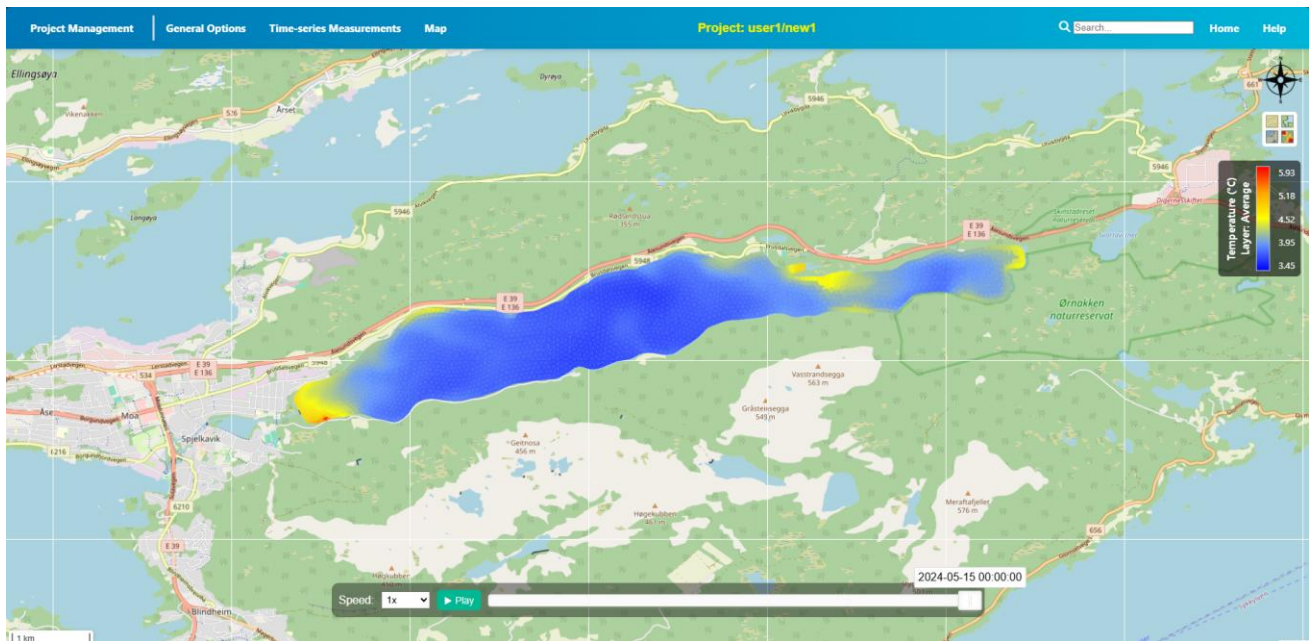
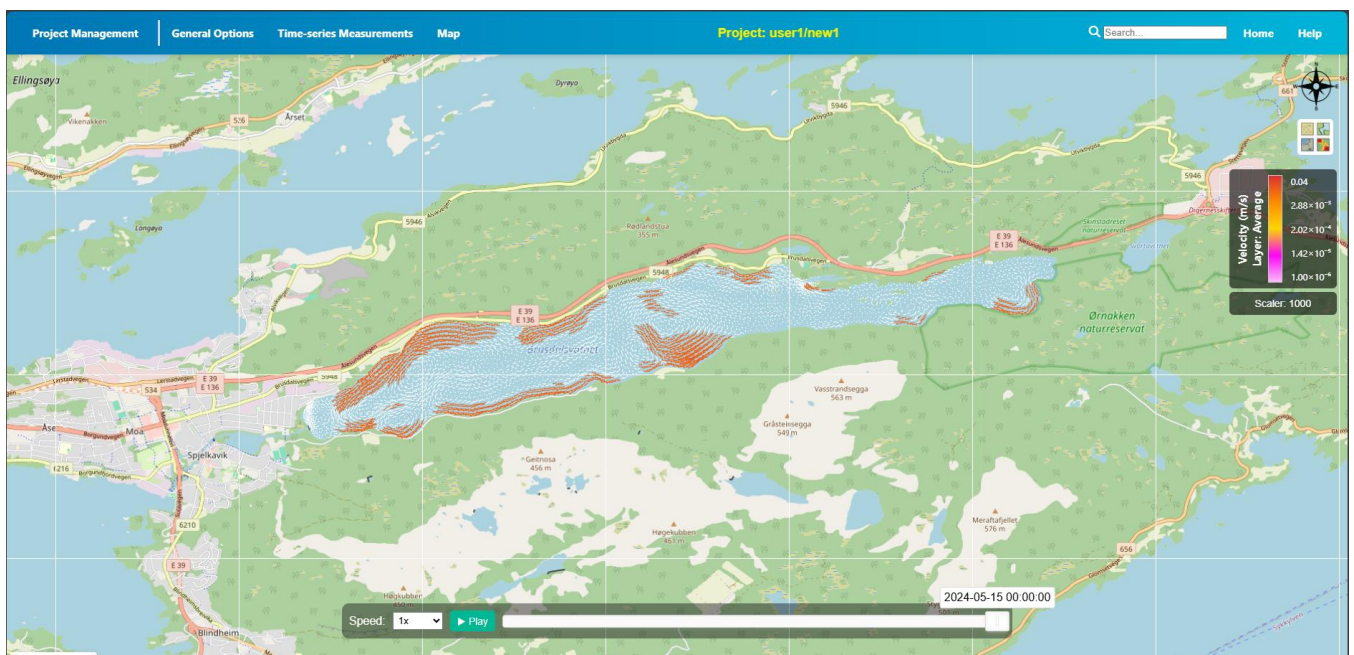
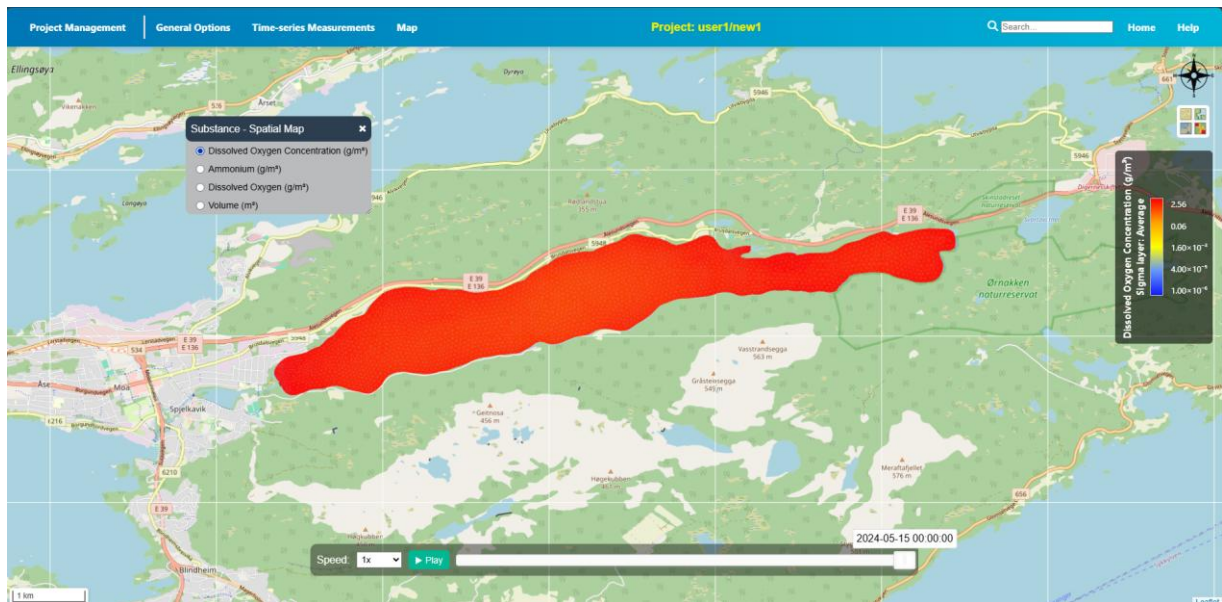
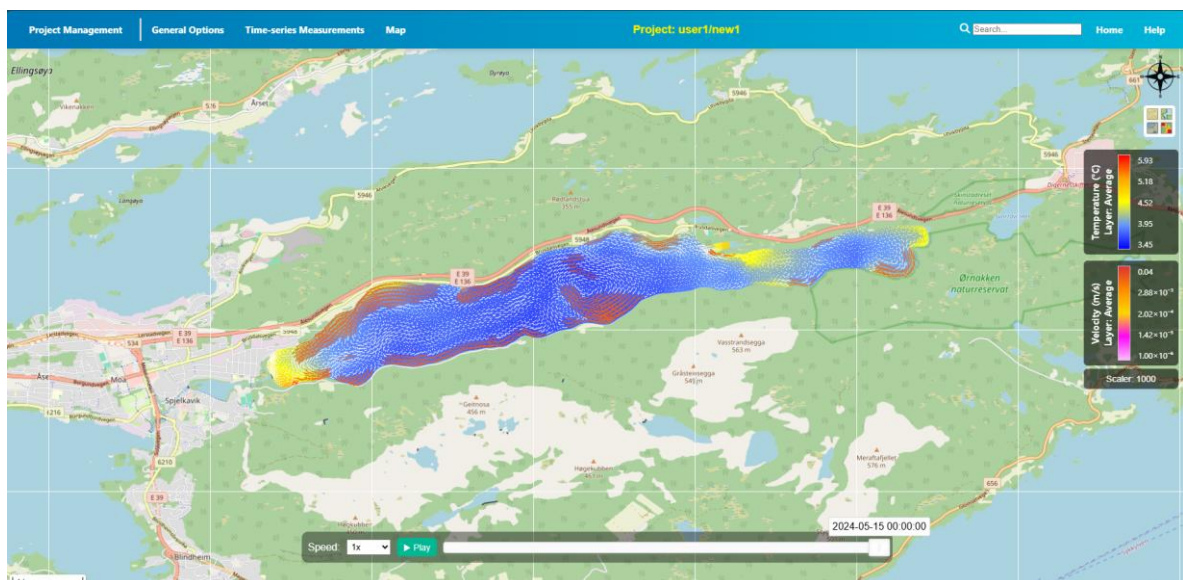

Figure 5.12a. Multiple layer dynamic map for average temperature
Figure 5.12b. Multiple layer dynamic map for average velocity
Figure 5.12c. Mutiple layer dynamic map for average simple oxygen (WAQ simulation)
Figure 5.12d. Mutiple layer dynamic map for average temperature and velocity
- One example of dynamic map for average value of temperature is shown in Figure 5.12a, velocity is shown in Figure 5.12b, average values for WAQ simulation is shown in Figure 5.12c, and combined map between average values of temperature and velocity is shown in Figure 5.12d.